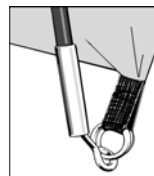

Figure 1.
1. Locate one end of each pole onto the corresponding metal pin. The metal pin inserts into the hollow metal ferrule on the end of each pole. (See Figure 1). Push the pole into a curve from the the opposite side, one at a time, and locate all pole ends onto the metal pins.